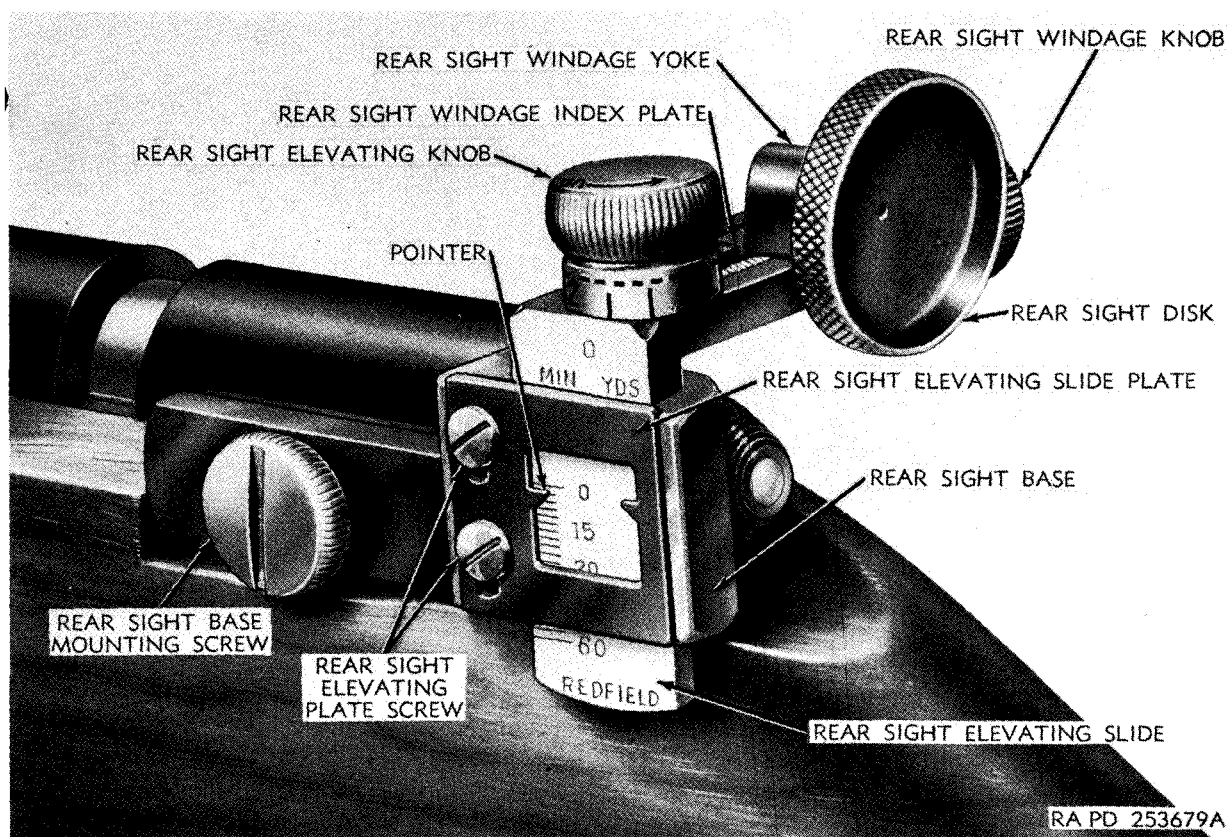

Figure 7. Rear sight assembly (Remington rifle M513T).
(3) Rear sight assembly (fig. 7).